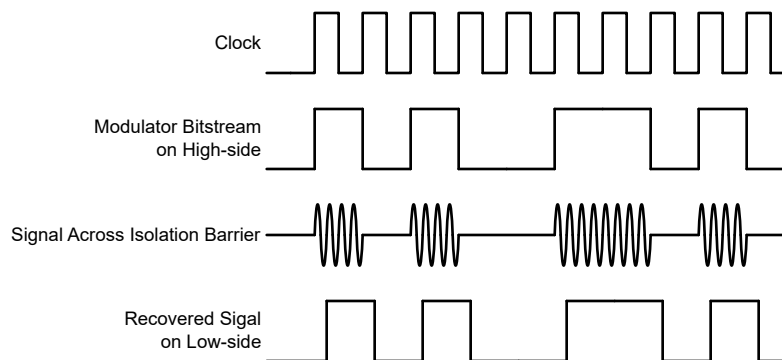

Figure 7-4. OOK-Based Modulation Scheme
The AMC1333M10 uses an on-off keying (OOK) modulation scheme, as shown in Figure 7-4, to transmit the modulator output bitstream across the SiO₂-based isolation barrier. The transmit driver (TX) illustrated in the Functional Block Diagram transmits an internally generated, high-frequency carrier across the isolation barrier to represent a digital *one* and does not send a signal to represent a digital *zero*. The nominal frequency of the carrier used inside the AMC1333M10 is 480 MHz.
Figure 7-4 shows the concept of the on-off keying scheme.